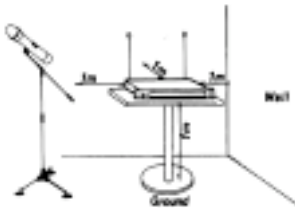

Fig. 4
- (b) Place the receiver at least 1 meter above the ground and away from walls or metal surfaces to prevent any reflection and dropouts, as shown in Fig. 4.